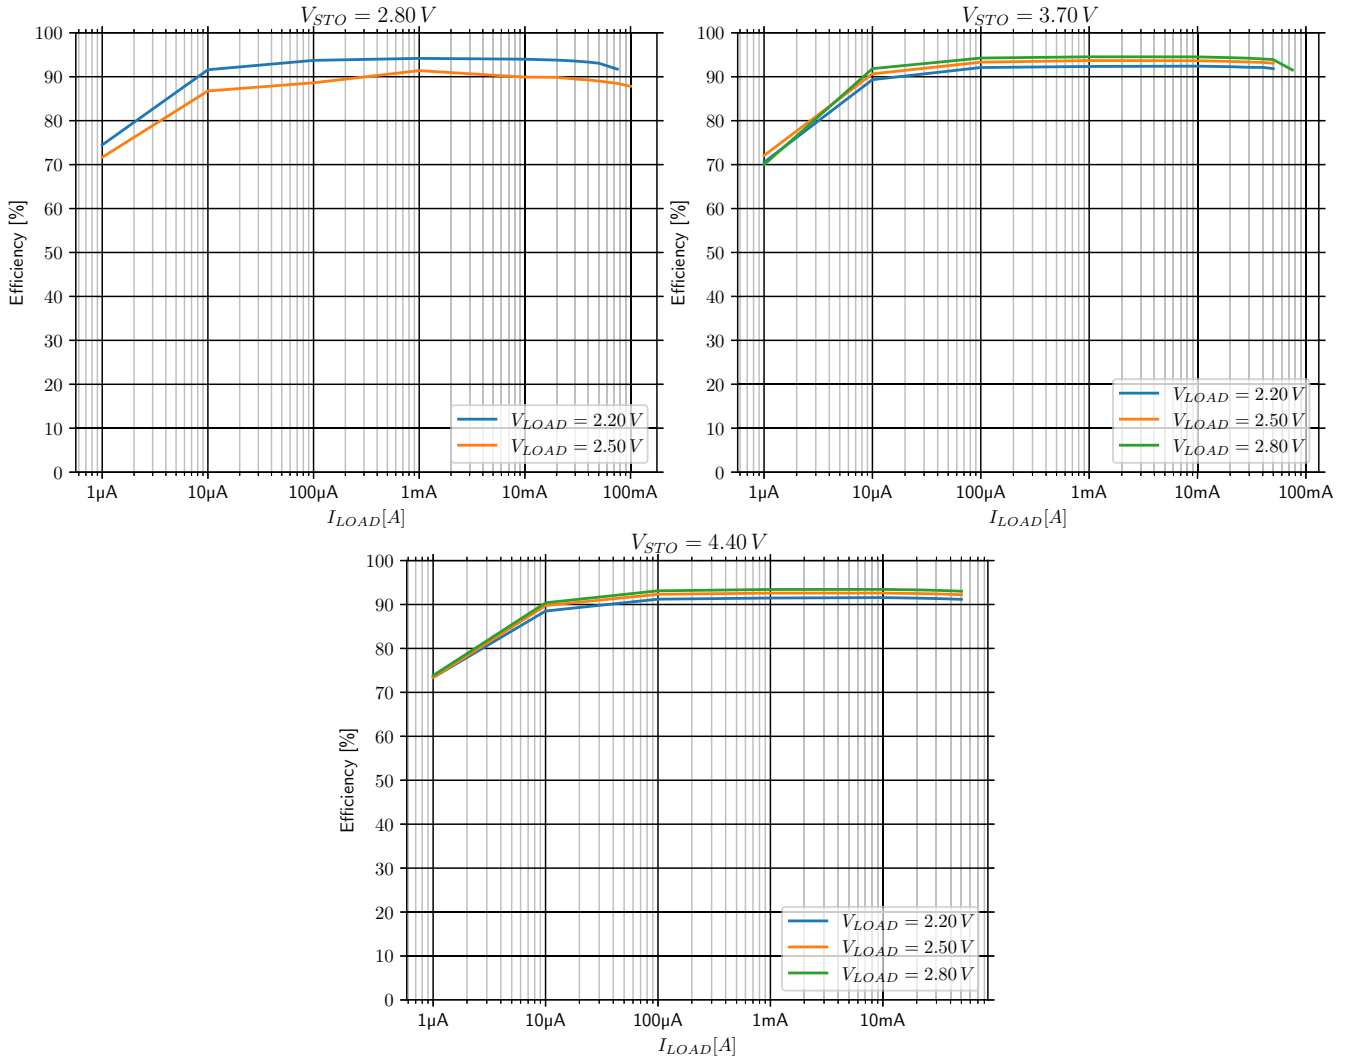

Figure 3: Buck (LOAD) converter efficiency
Figure 3 shows the AEM00920 buck efficiency with  $L_{BUCK} = 10 \mu\text{H}$  (TDK VLS252012CX-100M-1).
**NOTE:** The quiescent current of the AEM00920 is not included in the buck efficiency data presented in Figure 3, as it has already been included in the boost efficiency data shown in Section 2.6.1. This quiescent current has been measured with the boost converter in **SLEEP STATE** and the buck converter switched off.